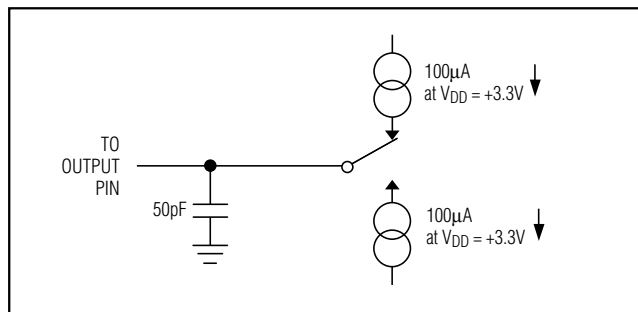

Figure 1. Load Circuit for Bus-Relinquish Time and  $V_{OL}$  and  $V_{OH}$  Levels
**Note 25:** Measured with the load circuit of Figure 1 and defined as the time required for the output to cross the  $V_{OL}$  or  $V_{OH}$  limits.
**Note 27:** Derived from the time taken by the data output to change 0.5V when loaded with the circuit of Figure 1. The number is then extrapolated back to remove effects of charging or discharging the 50pF capacitor. This ensures that the times quoted in the timing characteristics are true bus-relinquish times and are independent of external bus loading capacitances.